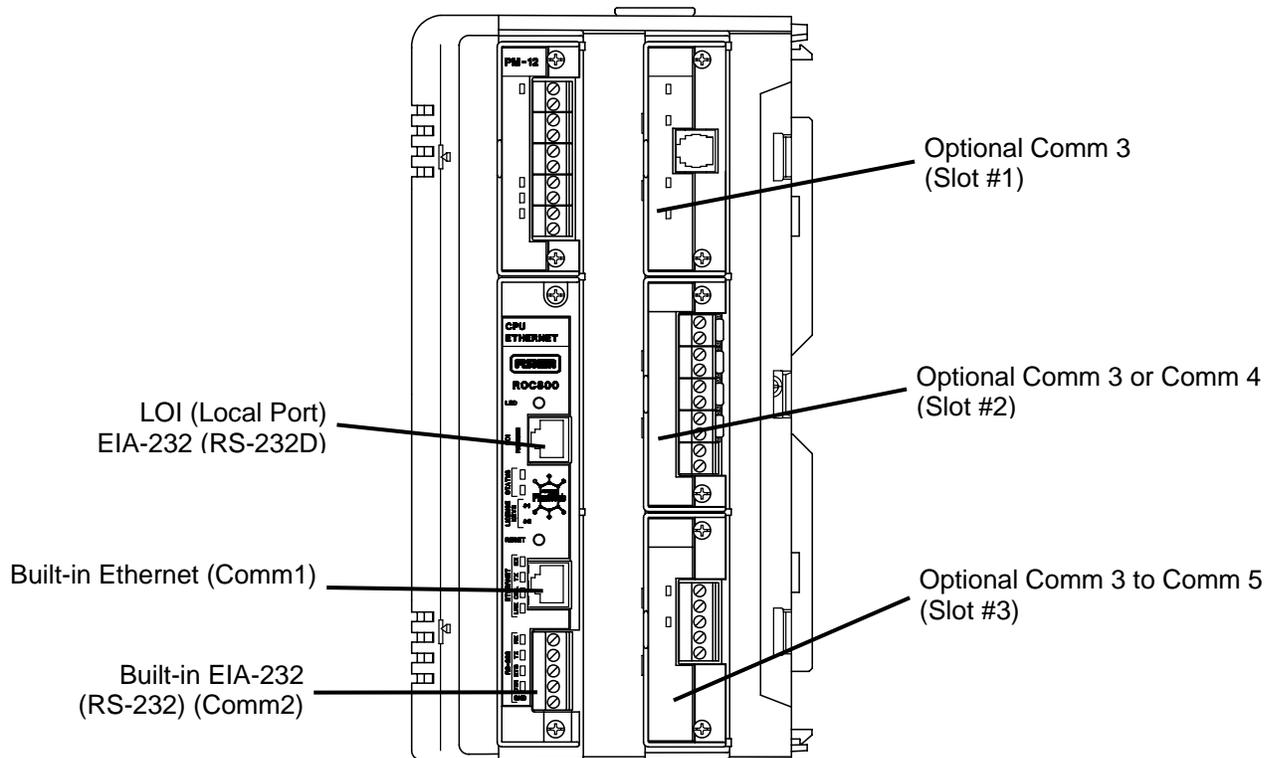

Figure 5-1. Communication Ports
The communication modules consist of a communications module (card), a communications port, wiring terminal block, LEDs, and connectors to the backplane. The ROC827 unit can hold up to three communication modules in the first three module slots. Refer to Figure 5-1.
**Note:** You can install communications modules **only** in slots 1, 2, or 3 of the ROC827. Refer to Figure 5-1.